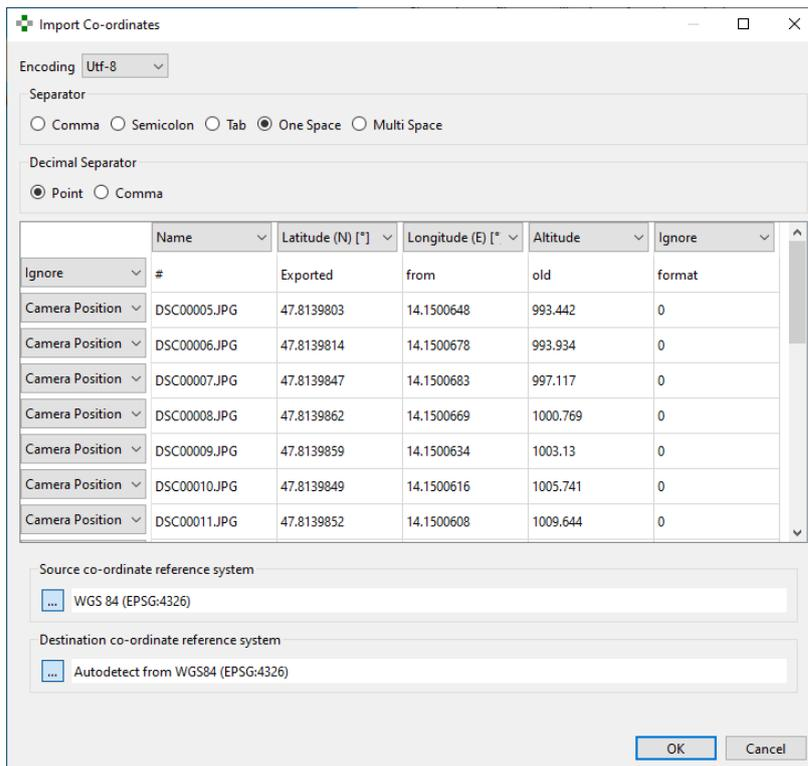

Figure 9: Import Co-ordinates. See Chapter 5.1.3 for further information.
Imports GPS co-ordinates from a “.txt” file (Figure 9).
1. Choose a text file containing the positional information and a dialog appears (Figure 9) requiring following input: